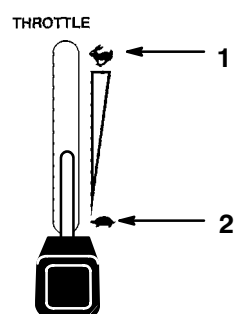

Figure 12
1. Move the throttle lever to “SLOW” (Fig. 12).